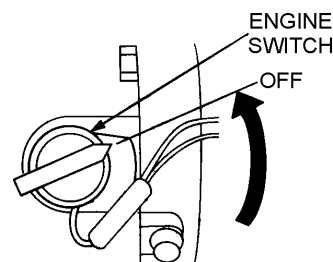

Figure 15. Engine ON/OFF Switch (OFF)
2. After the engine **cools**, turn the engine ON/OFF switch to the "OFF" position (Figure 15).